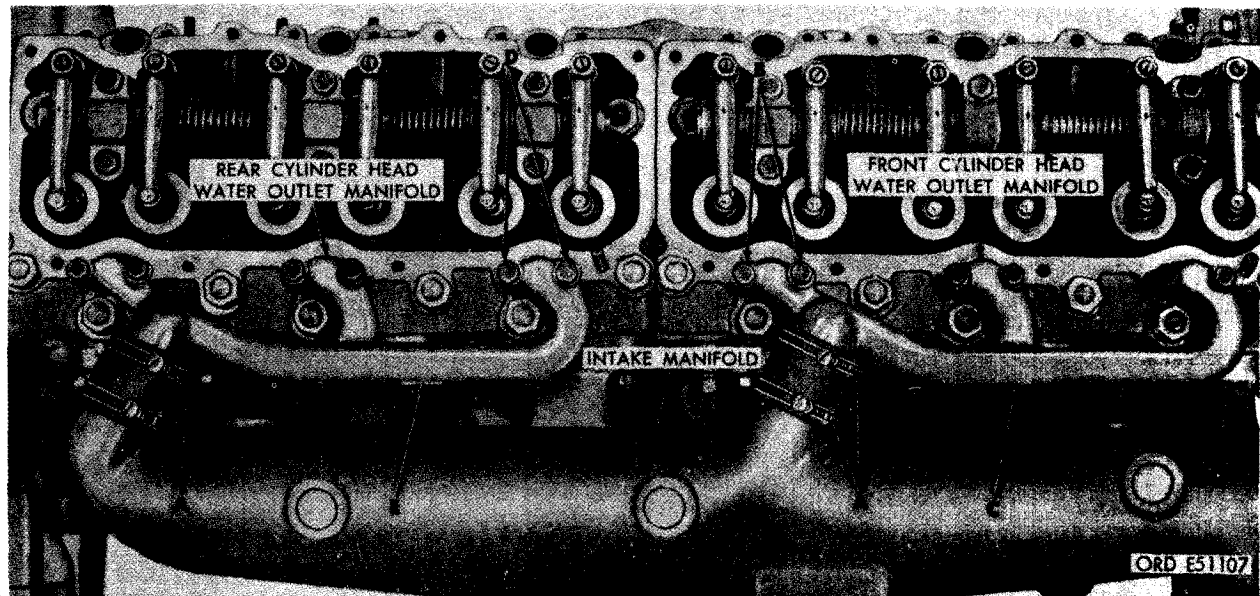

FIGURE 265. REMOVING OR INSTALLING FRONT AND REAR CYLINDER HEAD WATER OUTLET MANIFOLDS.
- (1) Figure 265. (A) Loosen two 1-5/8-inch id hose clamps securing front and rear cylinder head water outlet manifold-to-intake manifold hoses. (B) Remove six 5/16 x 2-1/4 cap screws and 5/16-inch lock washers securing front cylinder head water outlet manifold to front